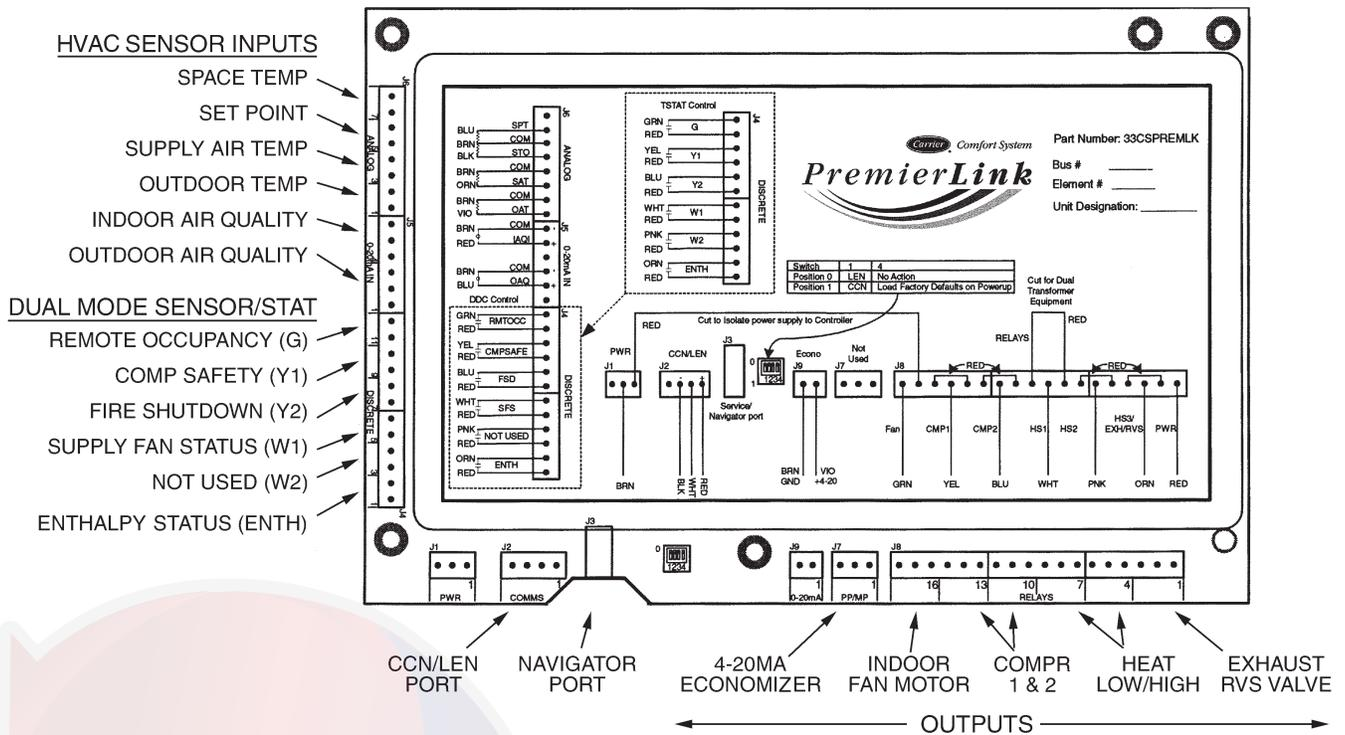

Fig. 44 – PremierLink™ Controller
Refer to Fig. 44 for PremierLink™ connection locations.
The PremierLink™ controller (see Fig. 44) is compatible with Carrier Comfort Network® (CCN) devices. This control is designed to allow users the access and ability to change factory-defined settings, thus expanding the function of the standard unit control board. CCN service access tools include System Pilot (TM), Touch Pilot (TM) and Service Tool. (Standard tier display tools Navigator™ and Scrolling Marquee are not suitable for use with latest PremierLink™ controller (Version 2.x).)